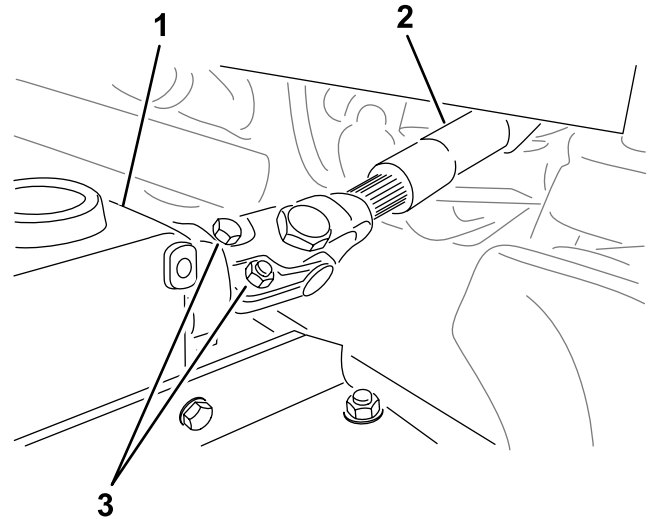

Figure 17
3. When you install the PTO shaft to the gearbox, assemble each pair of bolts (5/16 x 2 inches) and nuts (5/16 inch) opposite each other (Figure 17) and torque the nuts to 40 N·m (30 ft-lb).